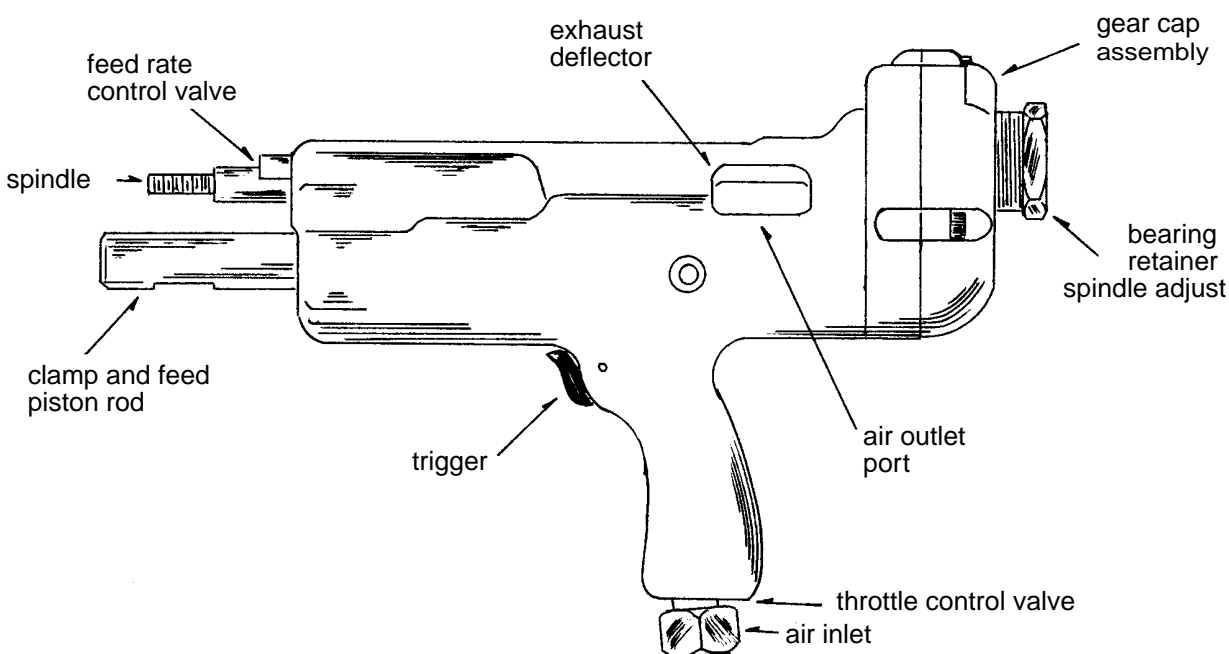
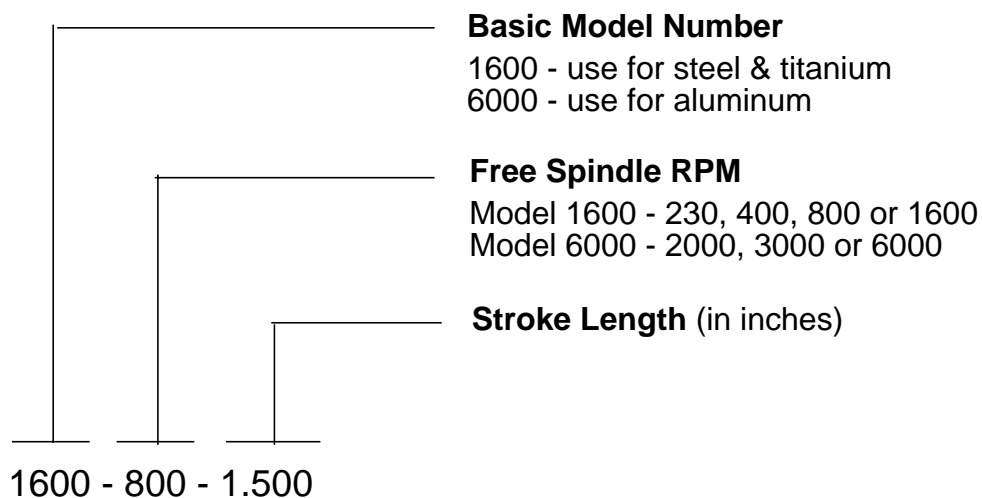
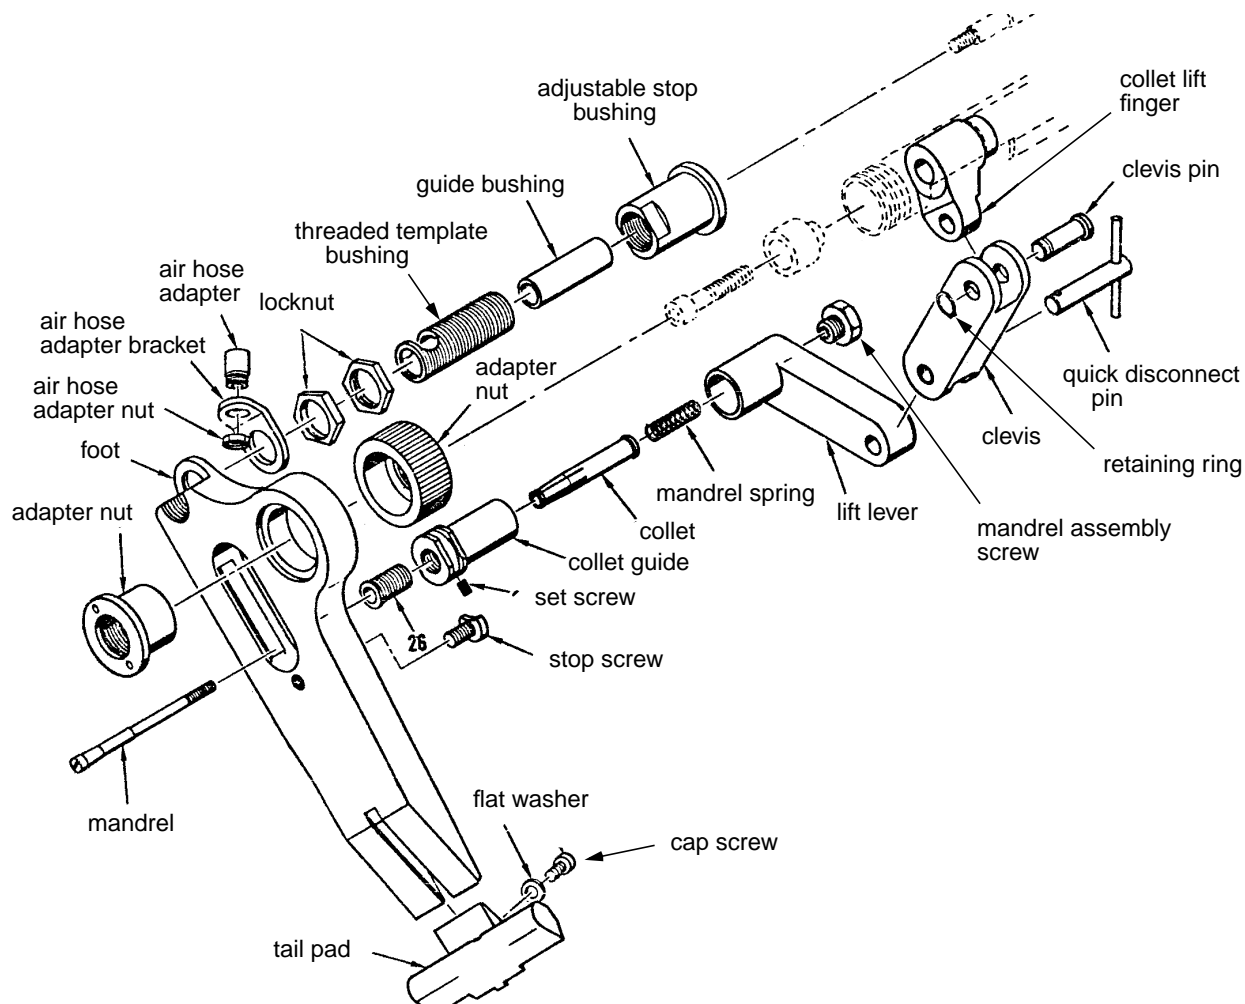
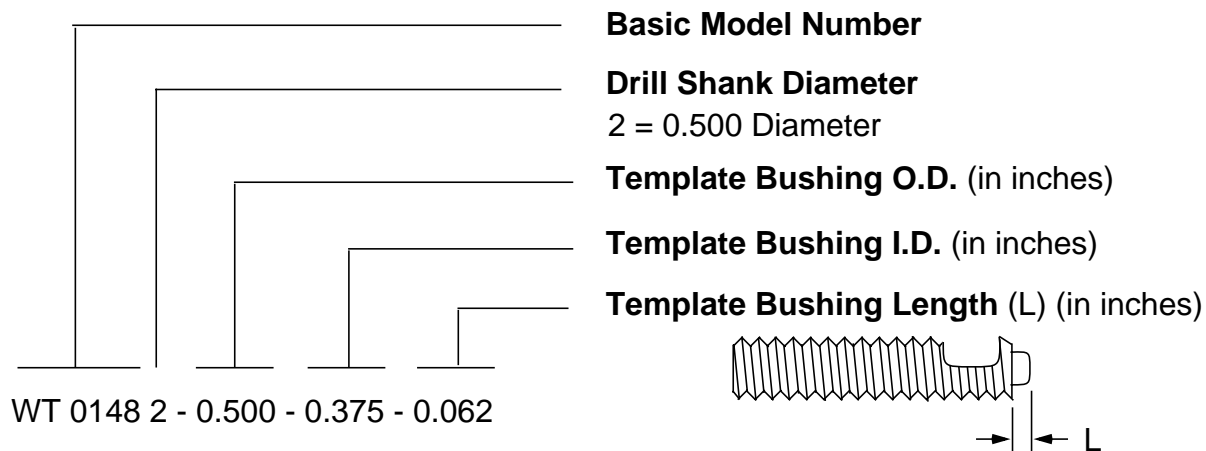

Figure 1 - Spacematic Drillmotor
Figure 2 - Breakdown of Drillmotor Part Numbers
Figure 3 - Variable Spacing Template Foot
Figure 4 - Variable Spacing Template Foot Attachment Part Number Breakdown
- 4.2.3 Spacematic drillmotors, footplates and collet assemblies, as required. Refer to Figure 1 for a general description of the Spacematic drillmotor and Figure 2 for a part number breakdown. Refer to Figure 3 for a general description of the variable spacing template foot and Figure 4 for a breakdown of the foot attachment part number designation.
- 5.3.1.1 Spacematic drillmotor spindle speed may be changed by replacing the reduction gears in the gear cap assembly with various gear sets developing free spindle speeds as shown in Figure 2. A further reduction of the spindle speed by up to 50 percent may be achieved by means of a throttle control valve located in the base of the tool handle.